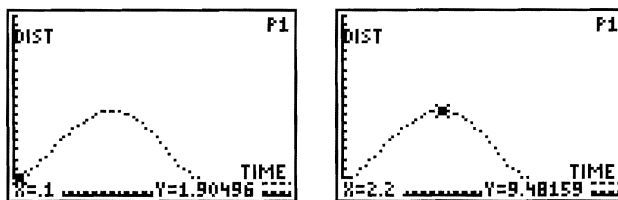

Figure 3: Distance versus Time
- 1 Use **TRACE** to find the coordinate of the vertex of the parabola and the coordinate of the student's first movement (refer to Figure 3). Find the average velocity for the first half of the walk (from start to the vertex point).
For the example pictured in Figure 3, the walker's motion started at $x=0.1$ and reached the vertex at $x=2.2$. You would want to work with a point near the center of this interval, such as $x=1$. Your first interval could be 0.5 to 1.5, with the second interval being 0.9 to 1.1.